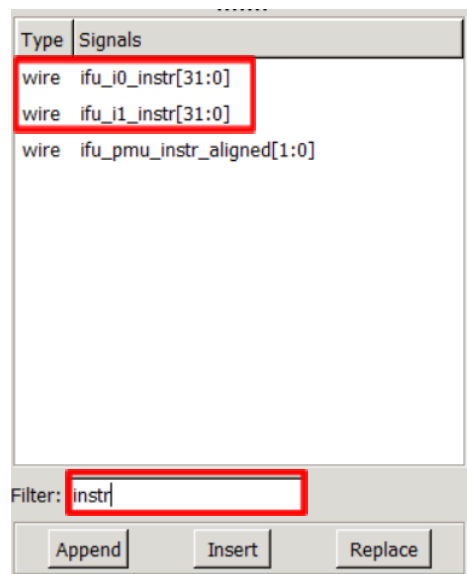

Figure 12. Add signals *ifu_i0_instr[31:0]* and *ifu_i1_instr[31:0]* to the timing waveform
3. Now add the signals that show the instructions that execute each way of the two-way superscalar RISC-V core. In the same module (*ifu*) look for signals *ifu_i0_instr[31:0]* and *ifu_i1_instr[31:0]* (Figure 12), and drag them into the black Waves pane. The prefix *ifu* indicates the instruction fetch unit, *i0* indicates superscalar way 0, and *i1* indicates superscalar way 1; *instr[31:0]* indicates the 32-bit instruction.
4. You can use the search filter to find the signals quickly (see Figure 12).